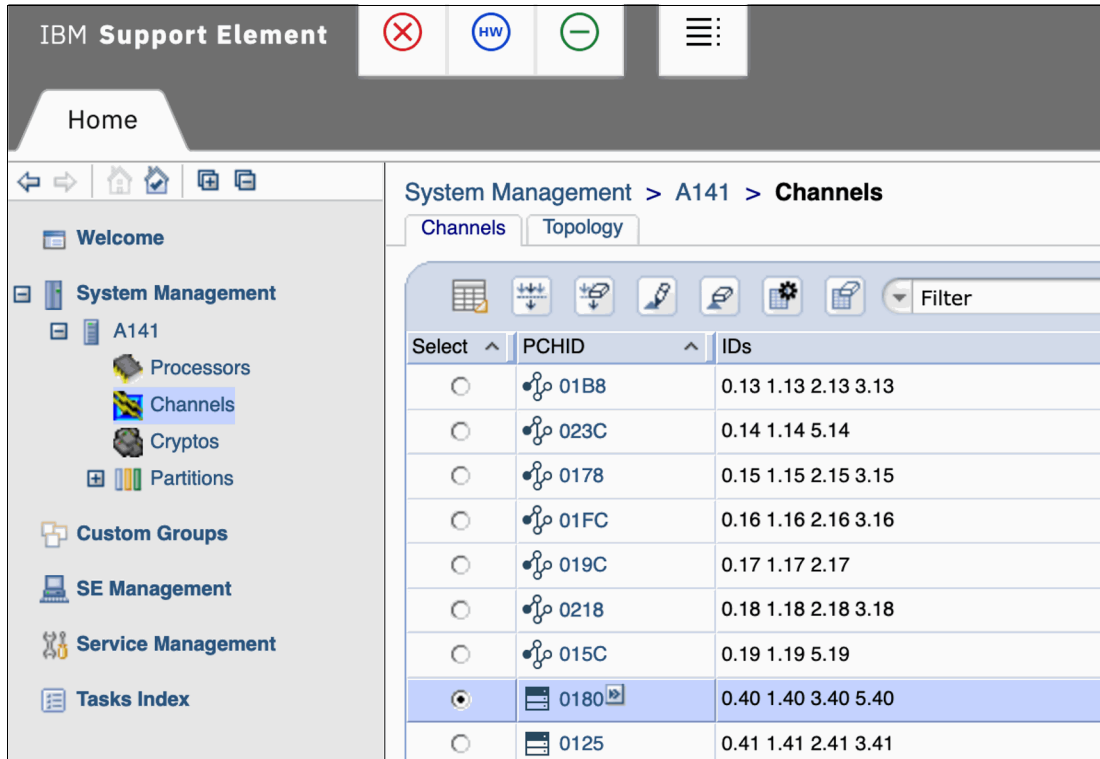

Figure 21 IBM Support Element view
1. Now go back and Configure your LPAR's CHPID back online. From the Channels listing. See Figure 21 on page 19.